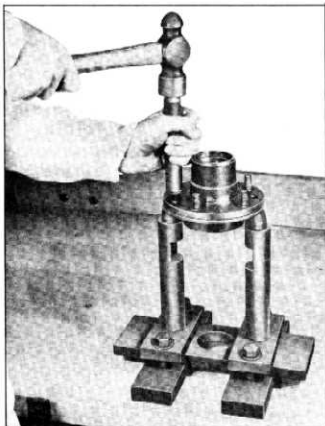

Fig. 13—Peening Front Hub Bolts
6. The end of the shoulder on the hub bolts should be peened into the countersink around the bolt holes in the hub flange, using J-554 peening tool and anvil (fig. 13).